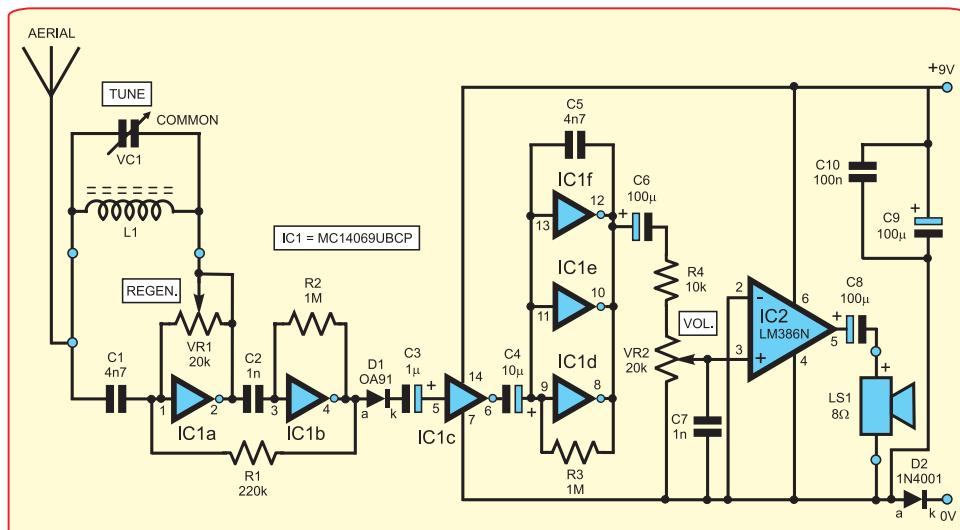

Fig.1.Experimenter's All-Band Radio
The circuit diagram shown in Fig.1 might be described as an 'AM radio without tears'. It is a robust little radio that should work no matter what – with virtually any tuned circuit, any aerial (or none at all), and without the need for an earth wire. It has good sensitivity, good selectivity, and modest power into a 1W RMS loudspeaker – or good power into headphones. While sound quality is modest, the circuit may be unmatched for economy and simplicity.
At the core of the circuit (Fig.1) is IC1, which serves both as receiver and preamplifier. Being a 4000-series CMOS IC, it is capable of operating (in theory) up to 5MHz, and in practice well above this. Therefore, the radio has a wide coverage – being capable of receiving long waves (LW) through to the short wave (SW) 41-metre band. Since this is a regenerative receiver, it will also (potentially) pick up single-sideband transmissions (SSB).